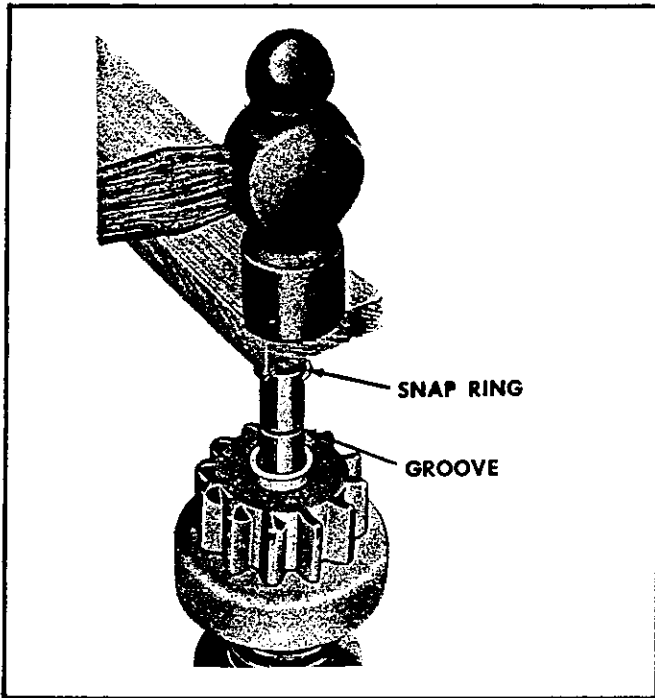

Fig. 131—Forcing Snap Ring over Shaft
- b. Place the snap ring on the end of the shaft. With a piece of wood on top of it, force the ring over the shaft with a light hammer blow (Fig. 131) then slide the ring down into the groove.